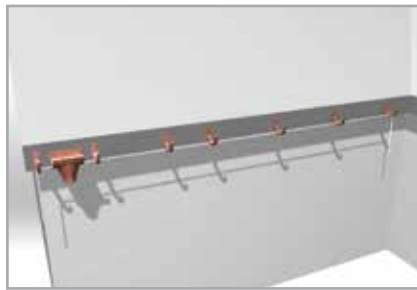

Fig. 11
- 3.4 Following the level of the string, determine positions and install the remaining brackets with spacing of 60 cm (**Fig. 11**)